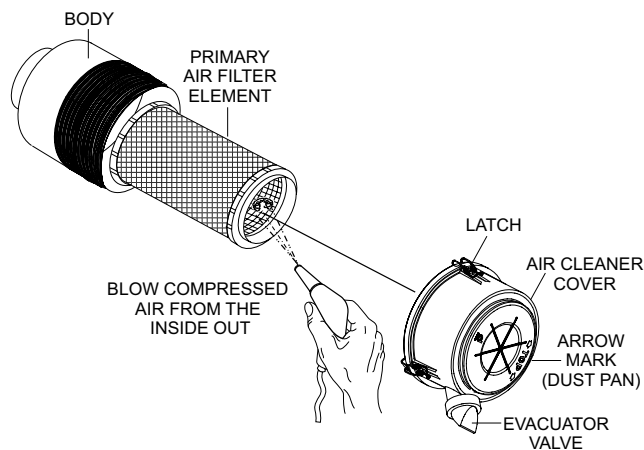

Figure 61. Engine Air Cleaner
The air cleaner (Figure 61) included with this Isuzu diesel engine is equipped with a replaceable, high-density, paper air filter element. Check the air cleaner daily or before starting the engine. Replace the air cleaner paper filter element as needed.
1. Release the latches that secure the cover to the air cleaner body (Figure 61).
2. Remove the **air cleaner cover** (Figure 61) and set it aside.
3. Next, remove the **air cleaner element** (Figure 61).
5. To clean the **element** (paper air filter) as shown in Figure 61, tap the filter element several times on a hard surface to remove dirt, or blow compressed air, not to exceed 30 psi (207 kPa, 2.1 kgf/cm²), through the filter element from the inside out.
7. Clean the inside of the **air cleaner body** (Figure 61).